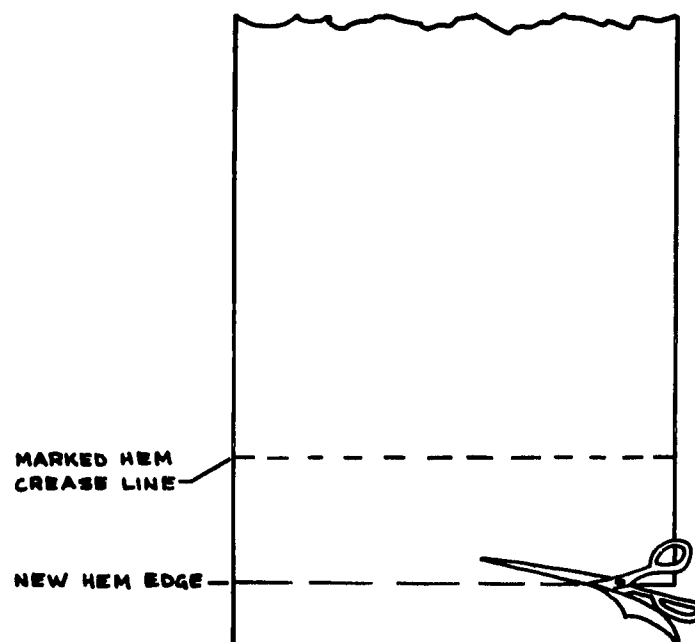

Figure 10.
6. Trim any excess fabric which falls below the newly marked hem edge (see Figure 10).